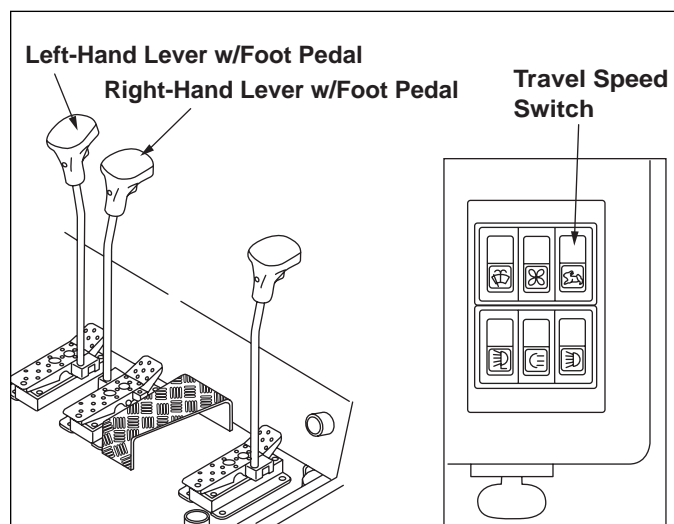

Figure 3-13. Travel Levers & Speed Switch
2. Push or pull the travel levers w/foot pedals to move the machine (Figure 3-13).